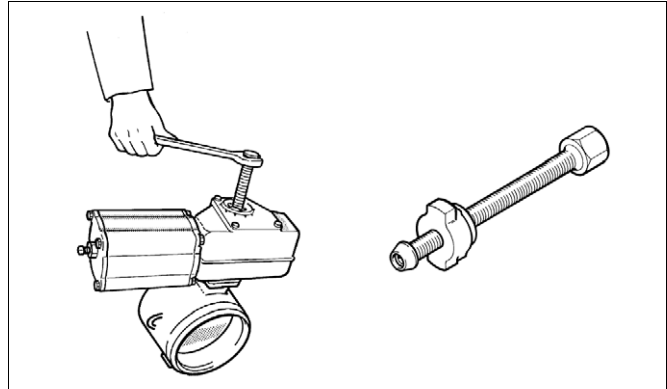

Fig. 7 Removing the B series actuator with an extractor
- ☐ Detach the actuator using a suitable extractor. The correct tool can be ordered from the manufacturer (see Fig. 7).